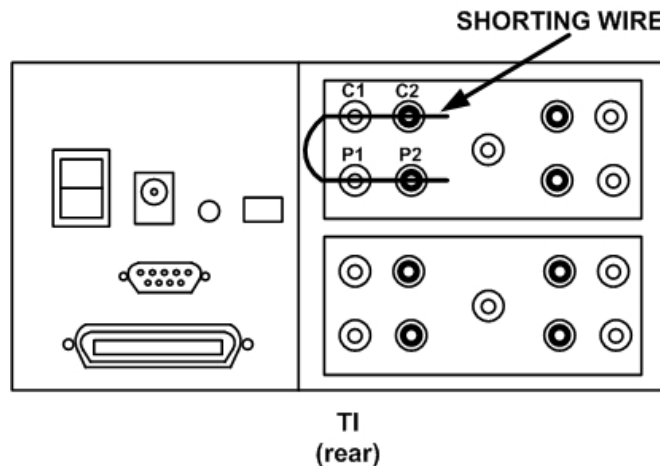

Figure 1. 0 ohm connection.
- (1) Remove the PRT from the TI and connect a shorting wire (0 Ω resistance) to the TI channel being calibrated as shown in figure 1.